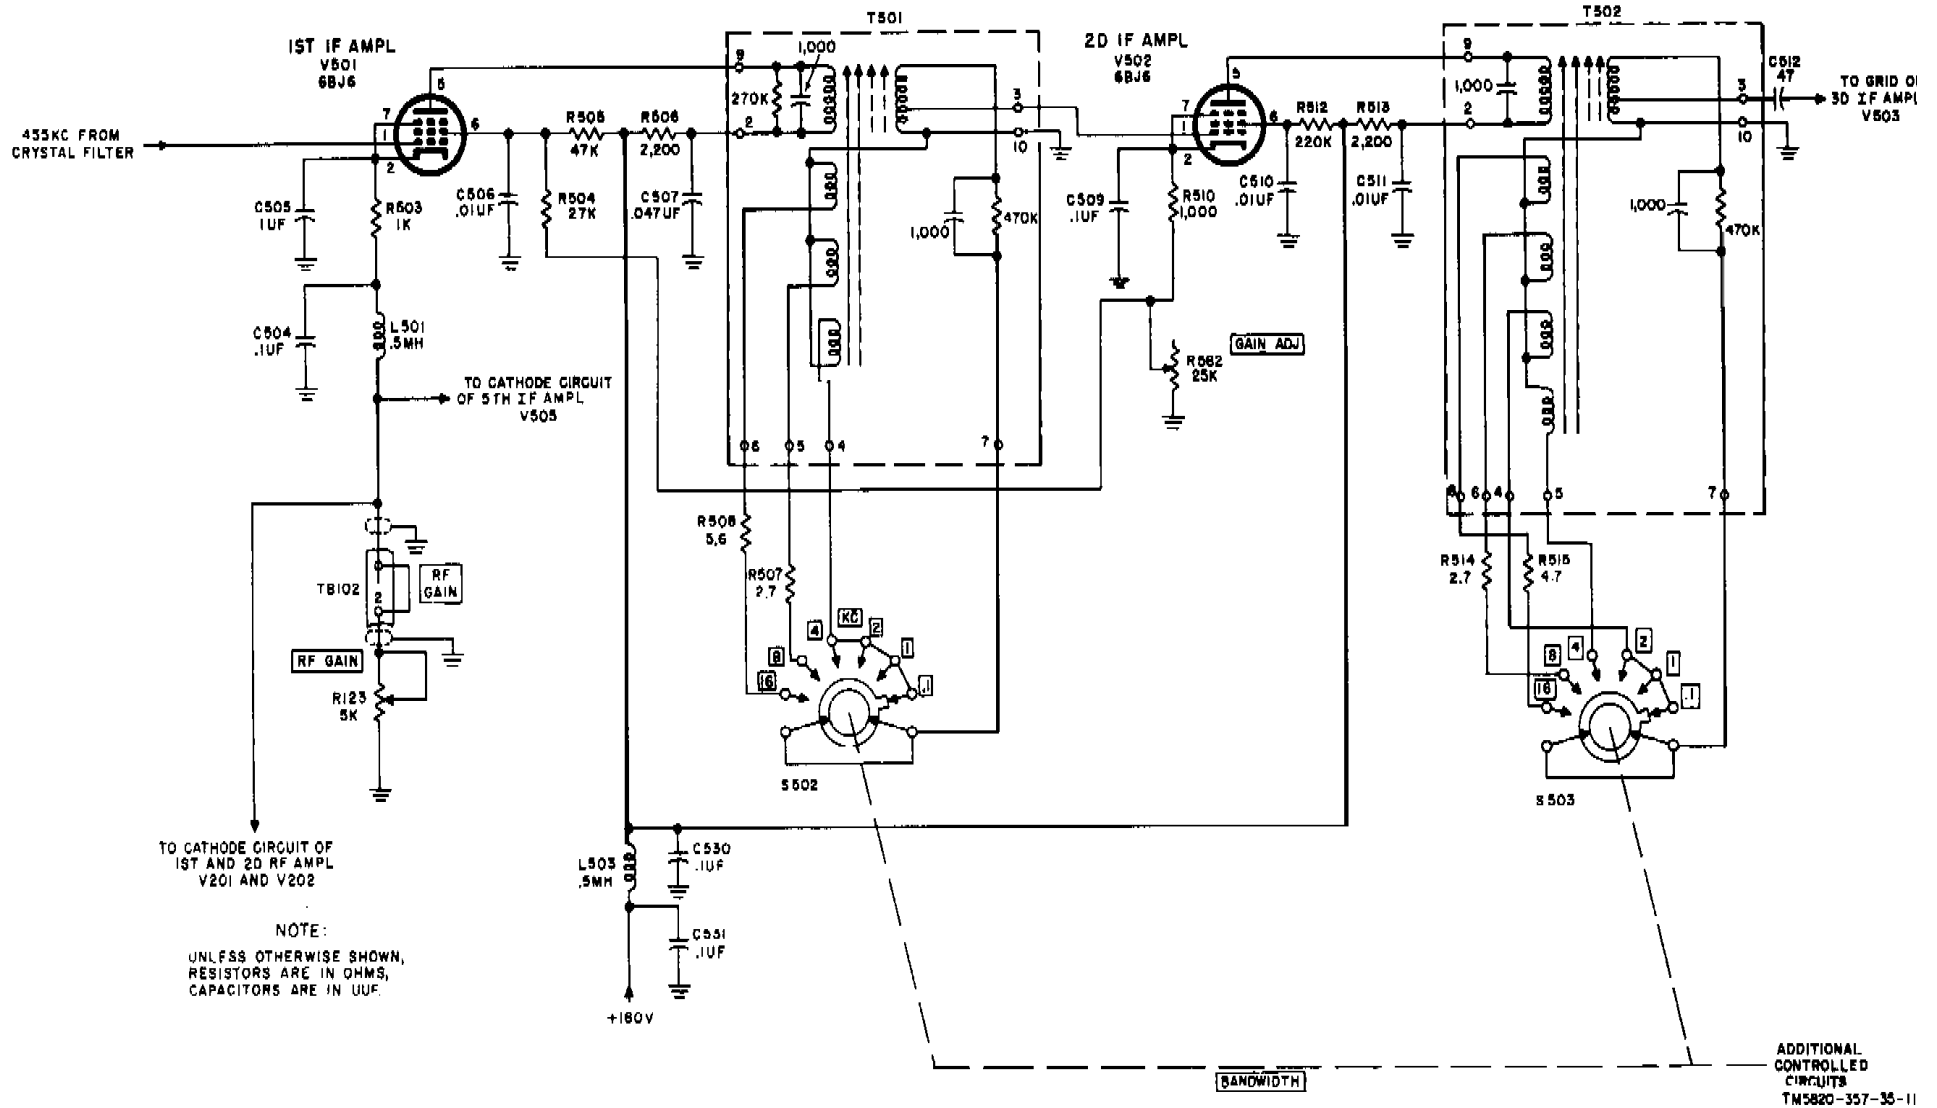

Figure 7. First and second if. amplifiers, simplified schematic diagram.
(fig. 7)
16. Second If. Amplifier V502 (fig. 7)